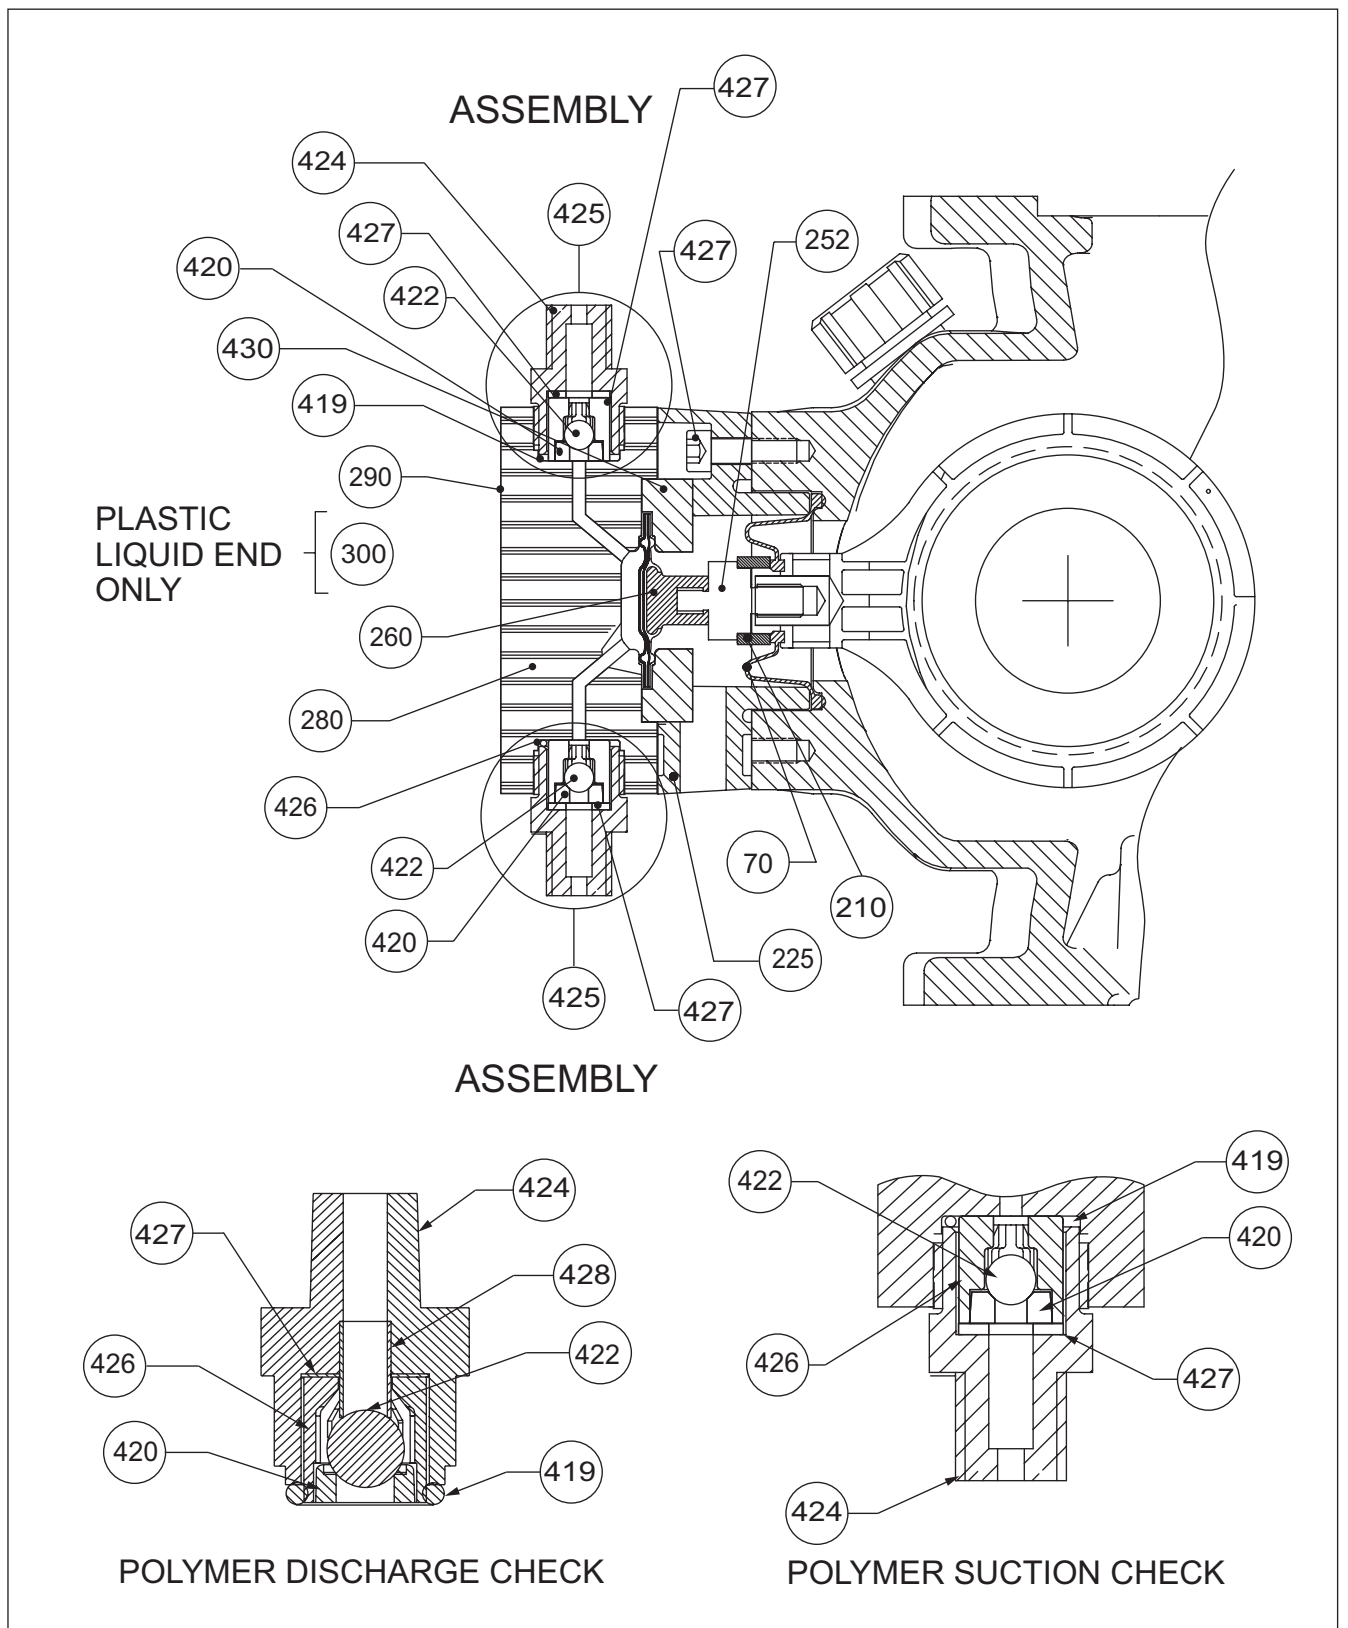

Figure 9. D2 Plastic Liquid End (10227800012)
- a) On Liquid End Size D2 models (*Figures 9 and 10*), remove adaptor piece (252), clamp ring (210), mounting screws (227) and spacer (225).